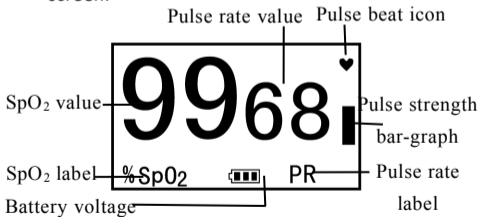

Figure 5 Default measuring screen
- Then the device enter into data display screen, as shown in figure 5. The user can read the values and view then waveform from display screen.